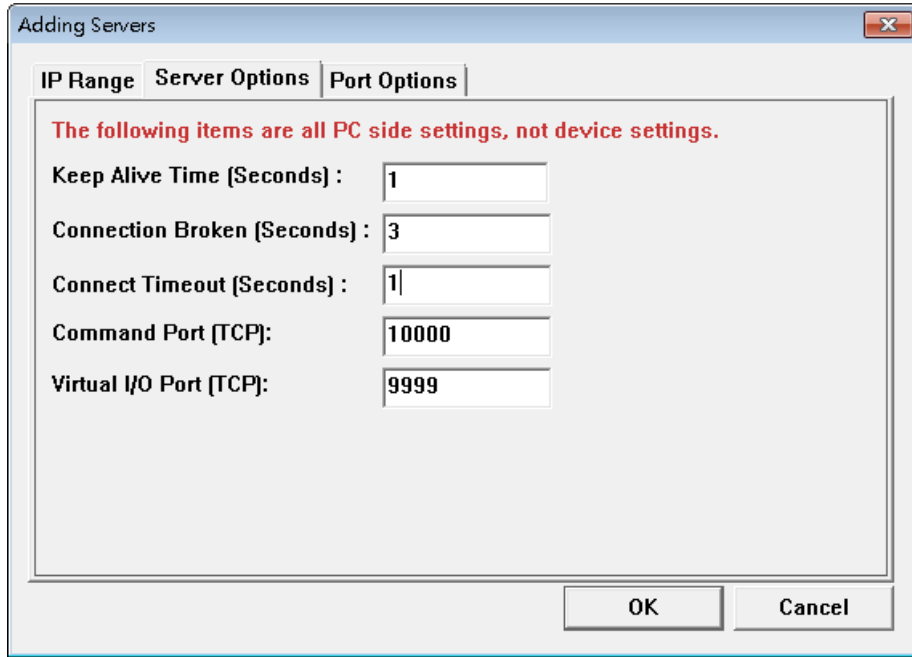

Figure 7.10.16
H.Then click on the Server Options at the top of the window and follow the screen setting parameters as shown in Figure 7.10.16. After setting, select "OK".